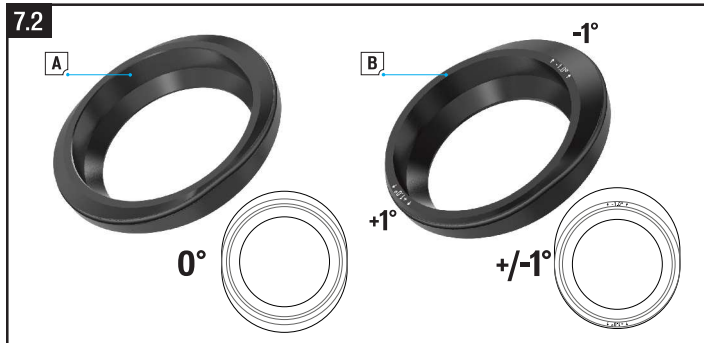

Fig. 7.2
- Loosen the stem bolts that attach it to the fork steerer (A).
- Loosen and remove the top cap bolt (B).
- Remove the stem (C) from the fork steerer tube (D) and remove the fork from the frame (E).
- Choose the headset cup and position (Fig. 7.2) for the rider's desired geo.